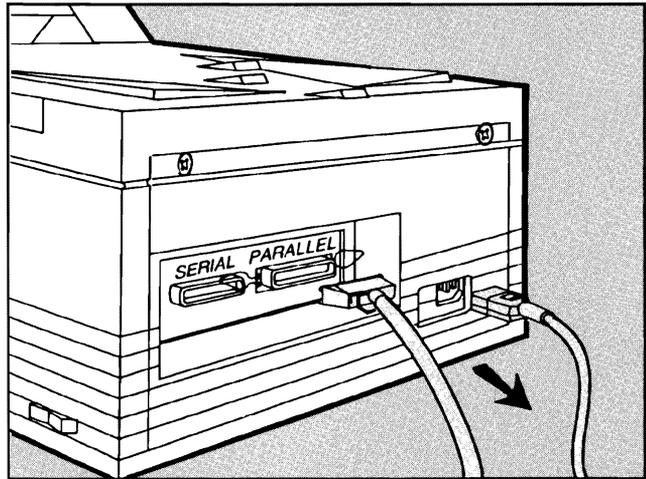

Figure F-2. Removing Cables
3. Turn off the printer and unplug the power cord (see figure F-2). Disconnect any serial or parallel printer interface cables from the rear of the printer either by using a screwdriver or by unclipping the cable, as appropriate.